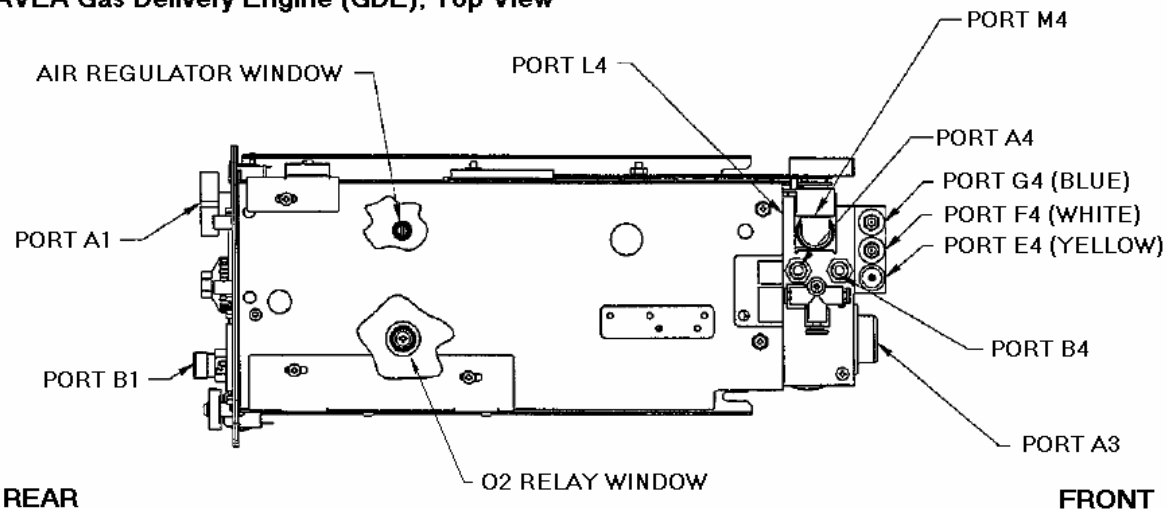

Figure 7.35
3. Attach Differential Pressure Test Gauge to Regulator Test Ports A4 and B4 at front of Gas Delivery Engine (GDE). Refer to Figure 7.35 below.